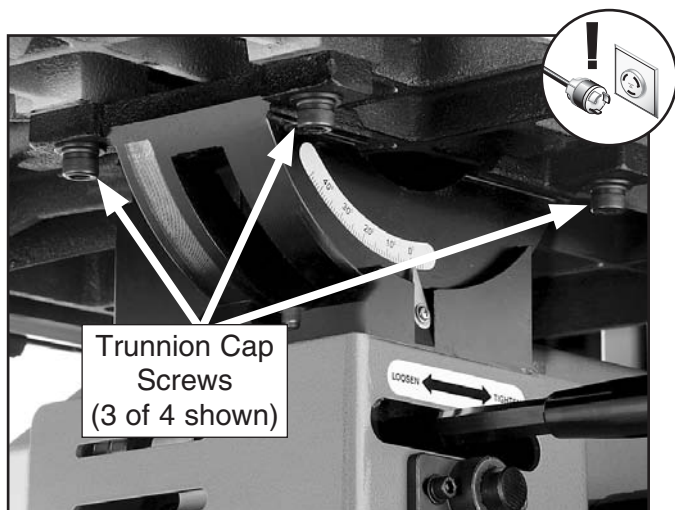

Figure 26. Trunnion cap screws (3 of 4 shown).
5. From underneath the table, loosen the four trunnion cap screws that secure the table (see **Figure 26**).